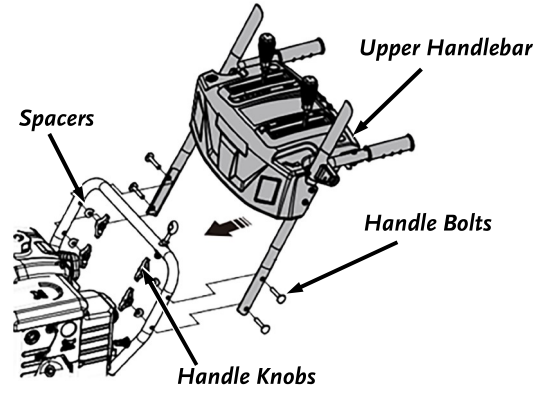

Figure 7
3. With an assistant, install Upper Handlebar onto Lower Handlebar using the four M8x50 Handle Bolts, Spacers, and Handle Knobs (**Figure 7**).